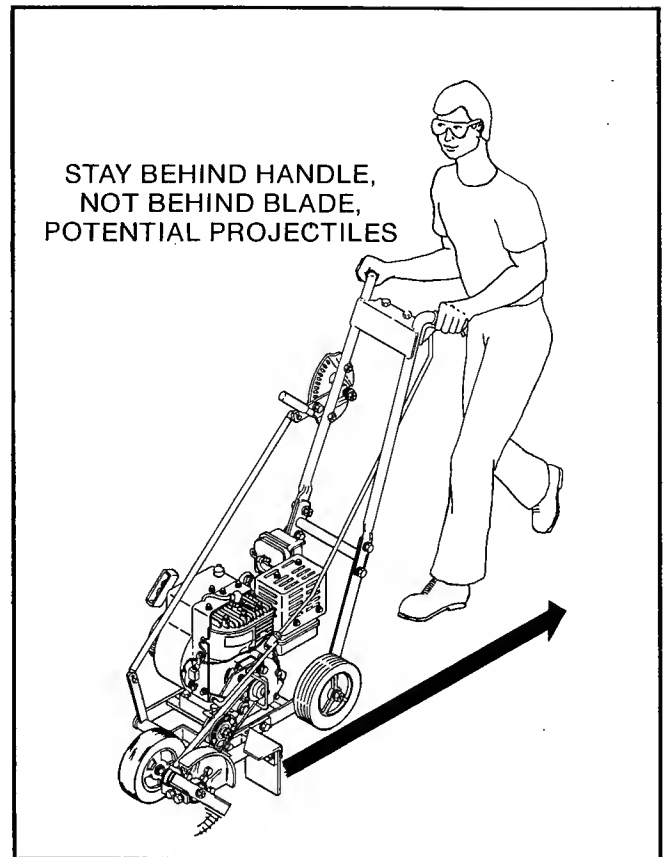

Figure 1
- Always stay behind the handles. Stones and other items thrown by blade can cause injury. (See figure 1)